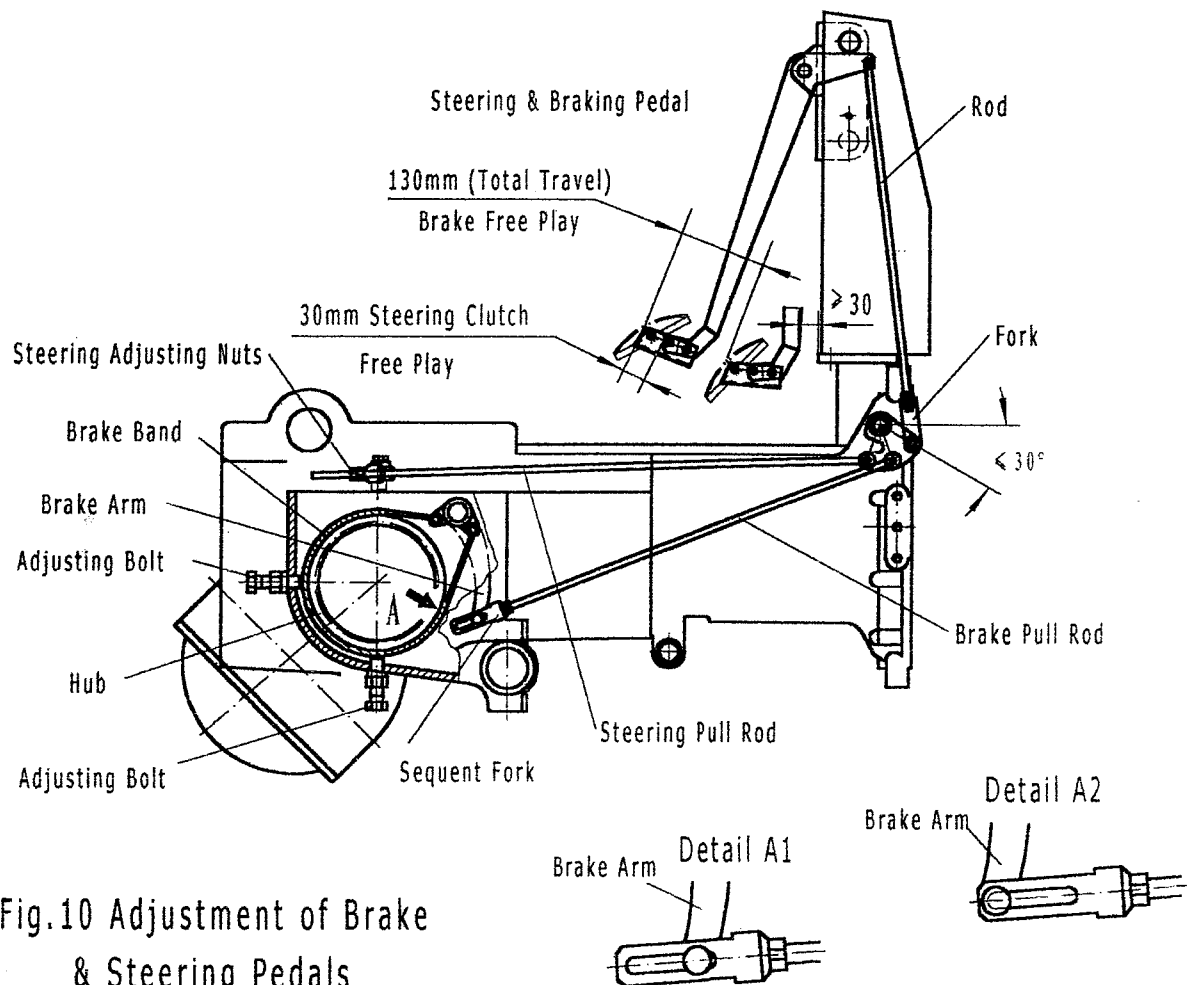

Fig.10 Adjustment of Brake & Steering Pedals
2. Turn the nuts on the sequent fork to extend the brake pull rod, let the pin on the end of the brake arm move toward in the front of the groove, as shown in Fig.10, Detail A1.
3. Turn the steering adjusting nuts to shorten or extend the steering pull rod to adjust the steering free play to the value shown in Fig.10.
4. Turn the nuts on the sequent fork to shorten the brake pull rod to adjust the braking free play to the value shown in Fig.10.
5. Depress the brake and steering pedal completely. The distance between the pedal and bulkhead (right or left side) should exceed 30 mm. Also, the pin on the end of the brake arm should move back in the rear of the groove, as shown in Fig.10, Detail A2.